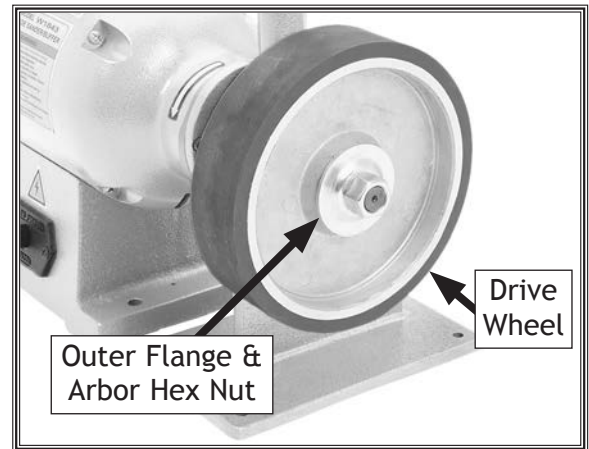

Figure 12. Drive wheel installed.
- Slide the drive wheel onto the right-hand arbor with a drive wheel flange ($\frac{3}{4}$ " center bore) on each side, then secure it in place with the remaining $\frac{3}{4}$ "-16 arbor hex nut (see **Figure 12**).